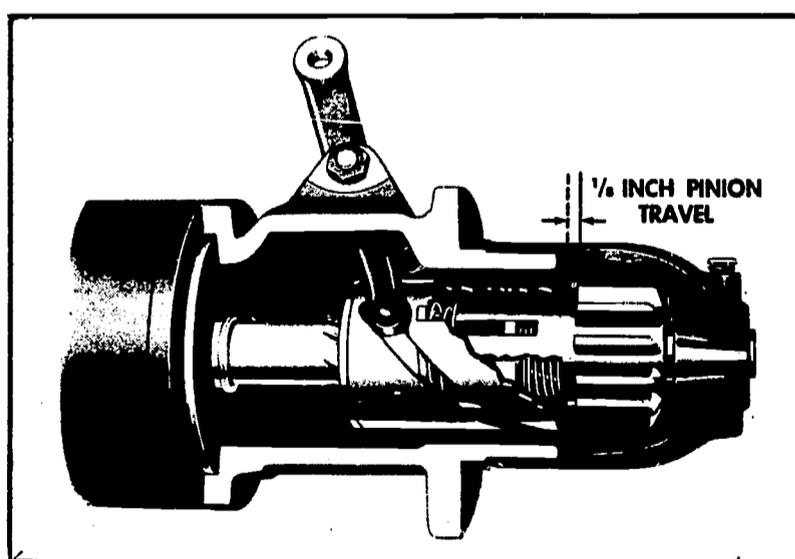

Fig. 9 Dyer drive pinion travel.
**DYER DRIVE CHECK** - There is one check on the Dyer Drive mechanism which should be made while the cranking motor is off the engine. This is the pinion travel against the spring with the motor in cranking position. Disconnect the lead between the solenoid and cranking motor and connect a battery of the correct (specified) voltage to the two small solenoid terminals (or to the small terminal and the solenoid base if there is but one small terminal). If the plunger does not pull in, move it in by hand so the shift lever is in the cranking position. Battery current will then maintain it in the operating position so that the pinion travel can be checked. It should be possible to push the pinion back against spring pressure  $1/8$  to  $3/16$  inch, as shown in Figure 9. Adjustment is made by turning the stud in the solenoid plunger in or out as required. A half turn of the stud allows  $1/16$  inch pinion travel adjustment.